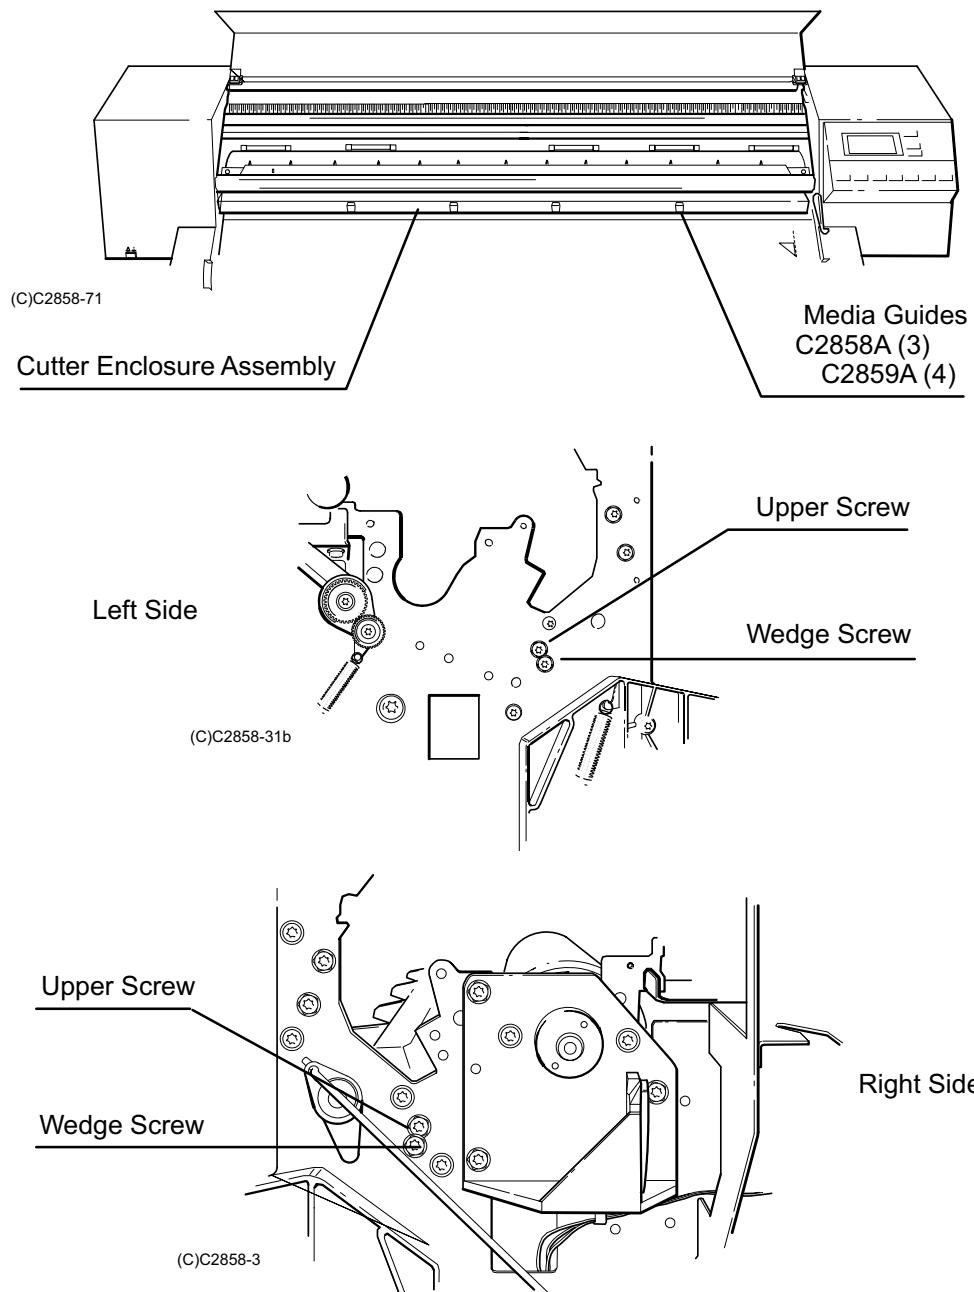

Figure 6-32.
3. Using a TORX T-15 screwdriver, remove the upper of the two screws that attach the left and right ends of the cutter enclosure assembly to the left and right sideplates. See Figure 6-32.